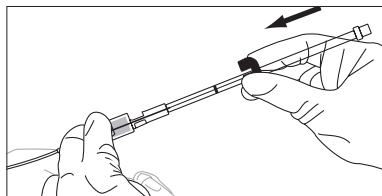

Figure 1
- Stabilize position of introducer needle and carefully advance spring-wire guide as far as required into vessel using actuating lever (refer to Figure 1).